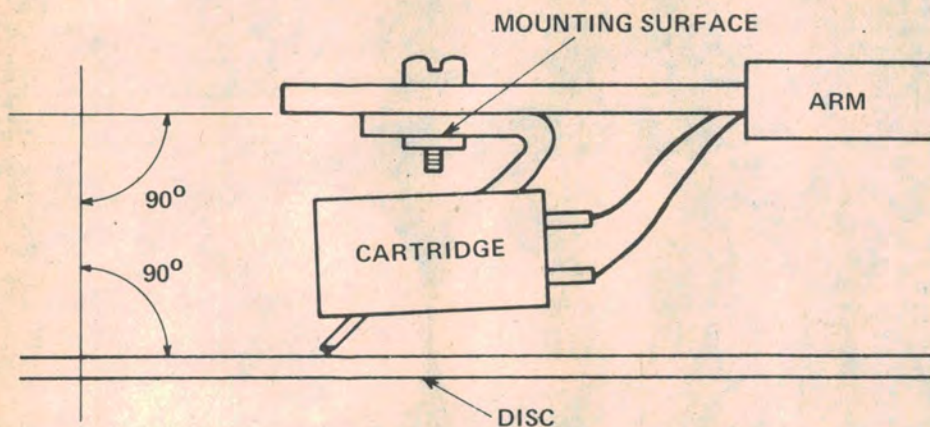

Fig. 2. The cartridge's vertical tracking angle is initially set as shown.
**STEP 2:** Refer Fig. 2. Set the vertical tracking angle of the cartridge by using the *mounting platform of the cartridge* as the guide, not the arm. This may be changed later but level the cartridge for the present. ▶